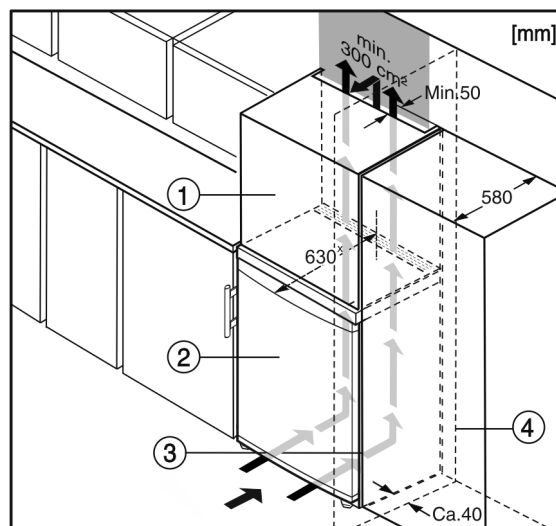

Fig. 6
- (1) Stack cabinet
- (2) Appliance
- (3) Kitchen cabinet
- (4) Wall
The appliance can be inserted into a row of kitchen units. To match the appliance Fig. 6 (2) to the height of the row of units, a suitable stack cabinet Fig. 6 (1) can be fitted above the appliance.*
When installing with kitchen units (max. depth 580 mm), the appliance can be positioned directly next to the kitchen cabinet Fig. 6 (3). The appliance will project by 34 mm* at the sides and 50 mm* in the centre of the appliance in relation to the kitchen cabinet front.*
If the appliance is installed with the hinges next to a wall Fig. 6 (4), the distance between appliance and wall has to be at least 40 mm. This corresponds to the projection of the handle when the door is open.